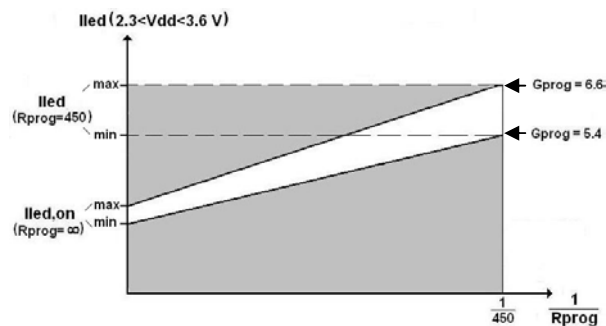

Figure 11.  $I_{LED,ON}$  vs.  $(1/R_{PROG})$
11.  $I_{LED, ON}$  current remains linear for  $R_{PROG}$  up to infinity. See Figure 11.